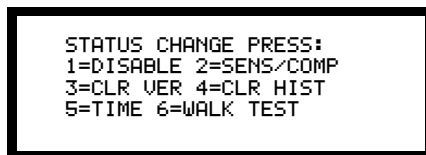
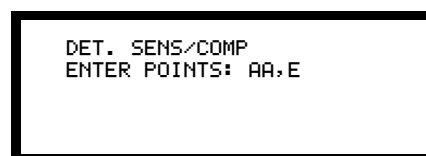
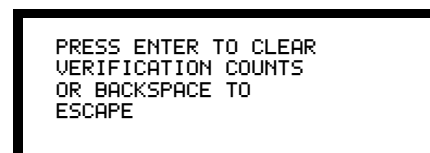
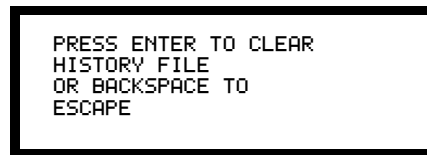

Figure 84 Status Change Screen
Figure 88 Detector Sensitivity/Comp Screen
Figure 90 Verification Count Clear Screen
Figure 91 Clear History Screen
You access all Status Change options from the Status Change screen (Figure 84). From the Program Entry screen (Figure 48 on page 66), enter your Status Change password to display the Status Change screen (Figure 84).
1. From the Status Change screen (Figure 84 on page 93), press the **1** key to display the Disable/Enable screen as shown in Figure 86.
6. When finished selecting Enable/Disable selections, press the BACKSPACE key to return to the Status Change screen (Figure 84 on page 93).
1. From the Status Change screen (Figure 84 on page 93), press the **2** key to display the Detector Sensitivity/Comp screen (Figure 88).
The Clear Verification Count screen (Figure 90) lets you clear all verification counters for detectors selected for Alarm Verification. To clear all verification counters, follow these steps:
1. From the Status Change screen (Figure 84 on page 93), press the **3** key to display the Verification Count Clear screen as shown in Figure 90:
2. Press the ENTER key to clear the verification counters or press the BACKSPACE key to return to the Status Change screen (Figure 84) without clearing the verification
1. From the Status Change screen (Figure 84 on page 93), press the **4** key to display the Clear History as shown in Figure 91.
2. Press the ENTER key to clear the contents of the History buffer or press the BACKSPACE key to return to the Status Change screen (Figure 84) without clearing.
1. From the Status Change screen (Figure 84 on page 93), press the **5** key to display the Time and Date screen. Figure 92 shows a sample Time and Date screen: